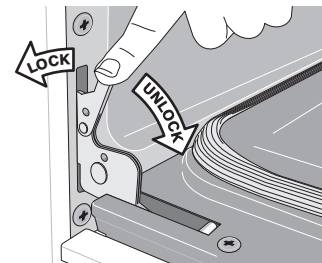

Figure 33: Door hinge locks
2. Pull the door hinge locks on both left and right door hinges down from the oven frame completely towards the oven door (See Figure 33). A tool such as a small flat-blade screwdriver may be required.
4. Push the door hinge locks up towards and into the oven frame on both left and right oven door hinges to the locked position (See Figure 33).